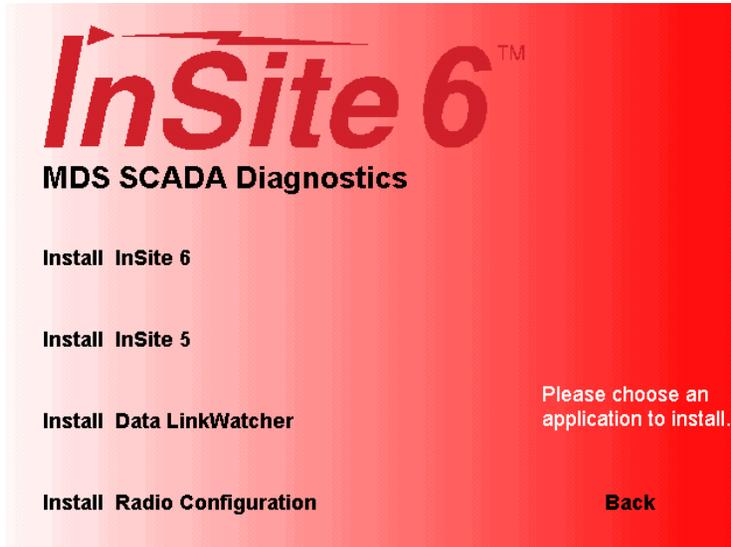

Figure 1. InSite Setup Screen
4. At the first InSite Setup screen (Figure 1), click **Install InSite 6**. This presents the destination screen (not shown here) where you can specify the directory where InSite will be installed.